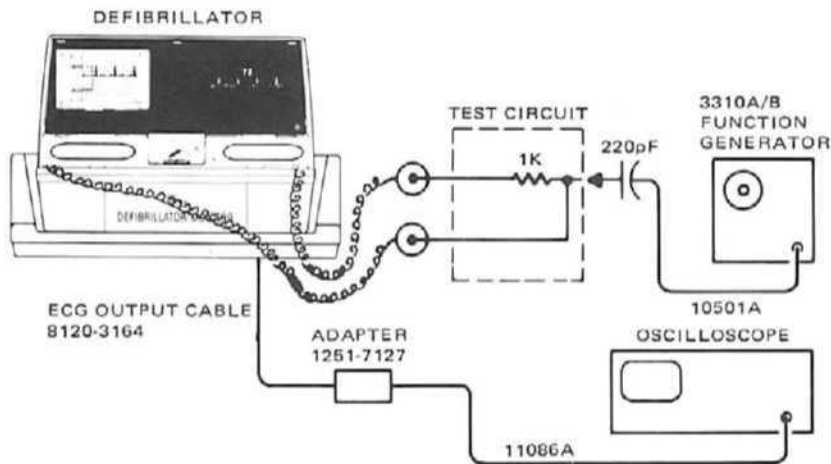

Figure 3-21. Common Mode Rejection Test Setup (Paddles).
- 2. Connect the equipment as shown in Figure 3-21 and set the controls as in 3.4.1.13, steps 6 and 7, except set the oscilloscope vertical sensitivity for desired viewing amplitude.